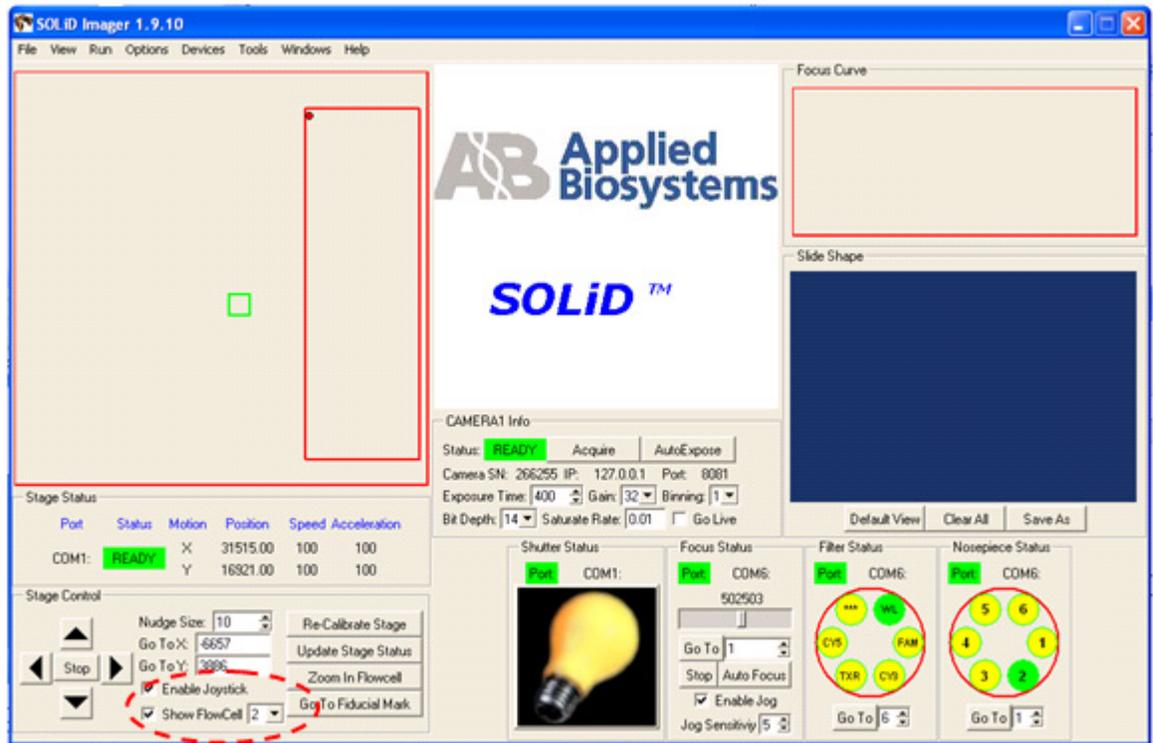

Figure 70 Click **Show Flowcell** to find the beads on the slide.
2. Select the **Show Flowcell** box in the bottom left hand corner of the Imager window, then choose the number of the flowcell to set (Flowcell 1 or Flowcell 2; see Figure 70).